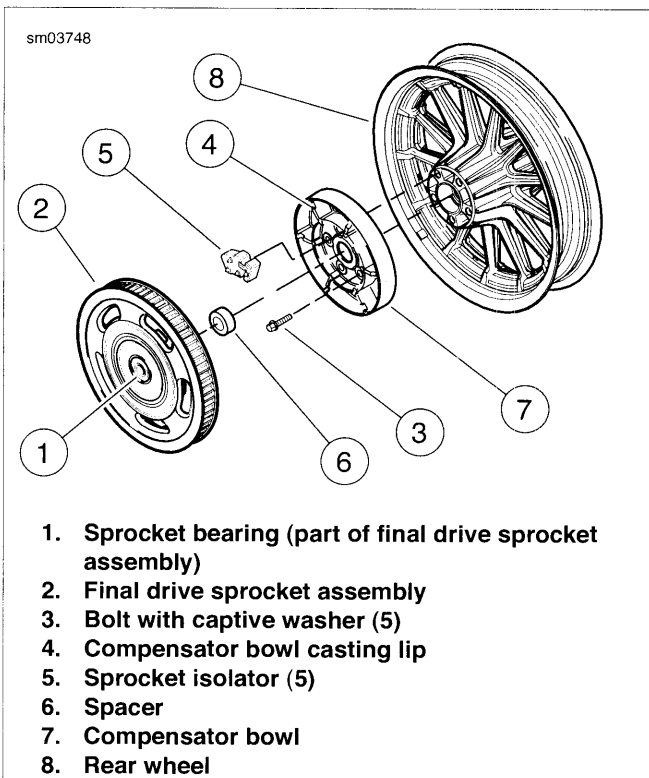

Figure D-1. Compensating Sprocket
2. See Figure D-1. Remove final drive sprocket assembly (2) and spacer (6).
3. Pull sprocket isolators (5) from compensator bowl (7).
1. See Figure D-1. Wipe inside of compensator bowl (7) and final drive sprocket (2) with a clean, damp cloth.
2. Inspect sprocket bearing (1). If bearing surface is rough or if bearing was leaking grease, replace bearing. See D.1 COMPENSATING SPROCKET, Sprocket Bearing Replacement.
3. Inspect sprocket isolators (5) for damage, deterioration, missing chunks or excessive debris beyond normal wear marks. Replace if necessary.
- See Figure D-1. Only remove compensator bowl (7) from rear wheel (8) if necessary. Bolts (3) are one-time usage only. If removed, they must be discarded and replaced with **new** bolts.
1. See Figure D-1. If compensator bowl (7) was removed, install bowl onto rear wheel with **new** bolts with captive washers (3). Tighten bolts as follows:
*Do not lubricate inside of compensator bowl (7), sprocket (2) or sprocket isolators (5) with any type of oil based lubricant. Use ONLY soapy water or window cleaner on isolators to facilitate their installation. Do not install isolators dry.*
3. See Figure D-1. Install spacer (6) by placing on bowl casting lip (4).
4. Install sprocket (2) onto compensator bowl (7).